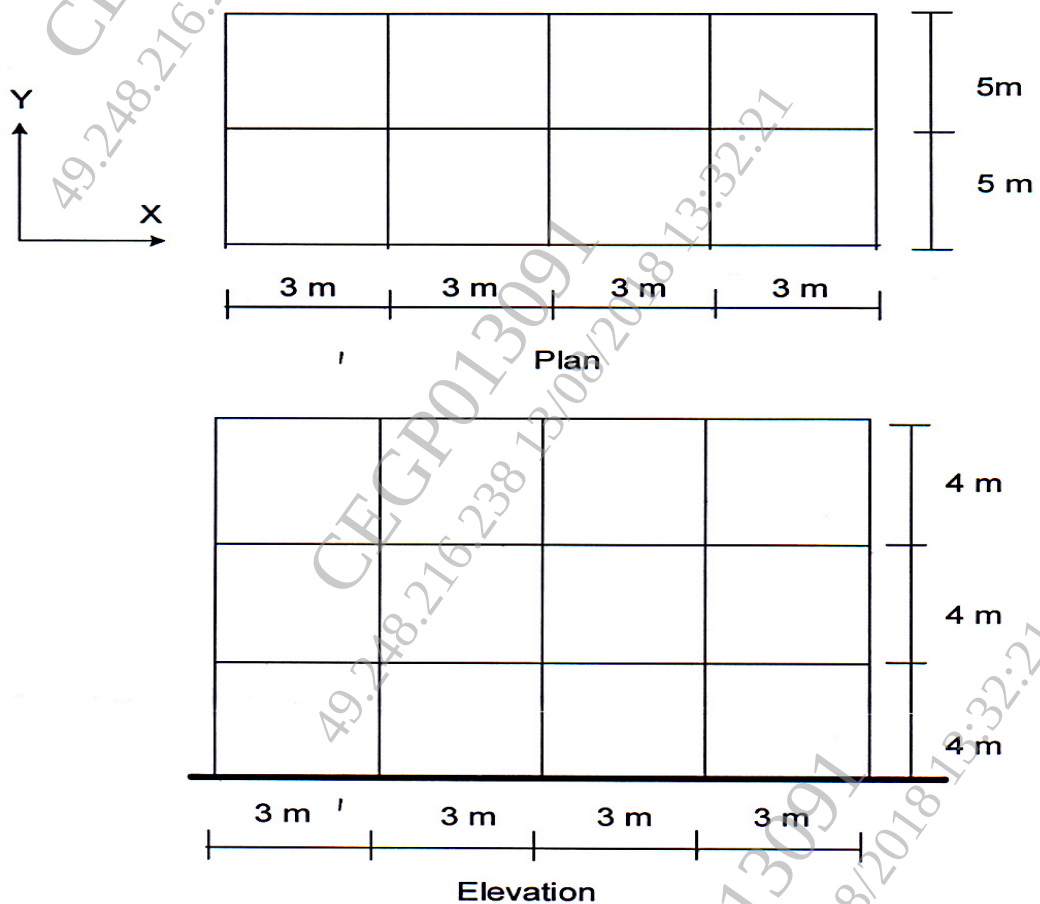

Fig. 2
- b) Determine the seismic forces in X and Y direction at each floor level for the school building shown in the Fig. 2. The building is located in Pune. The soil investigation revealed a poorly graded sand with no fines having $N = 20$. Ordinary moment resisting RC frames are in-filled with brick-masonry are used in the building. The lumped weight due to dead loads may be taken as 10 kN/m^2 . The floors are to cater a live load of 4 kN/m^2 on floors and 1.5 kN/m^2 on the roof. [7]